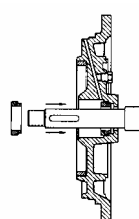

Fig.: 7
6. Montar la parte fija del nuevo cierre.(fig.: 7)
6. *Mount the fixed part of the new mechanical closing. (fig.: 7)*